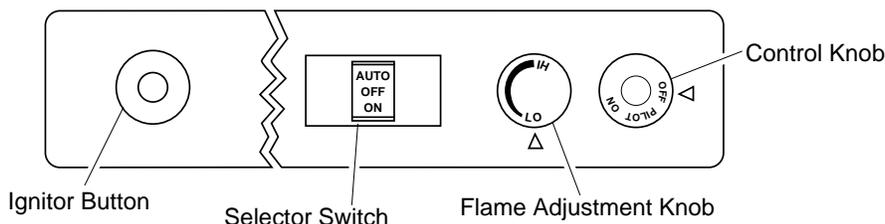

Figure 20 - Control Knob and Ignitor Button Location (Shown as Supplied, No Control Options)
- Wait five (5) minutes to clear out any gas. Then smell for gas, including near the floor. If you smell gas, **STOP!** Follow "B" in the safety information, column 1. If you don't smell gas, go to the next step.
- Press in and turn control knob counterclockwise  to the PILOT position. Press in control knob for five (5) seconds (see Figure 20).